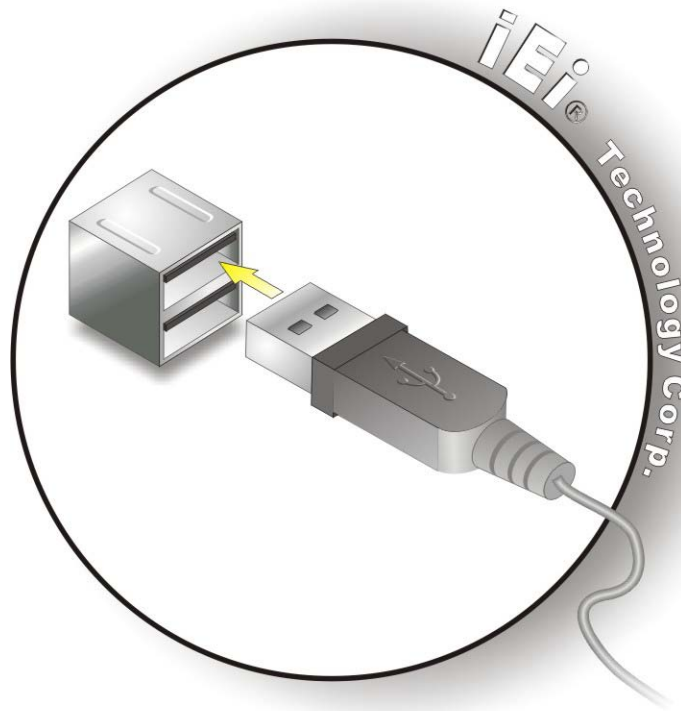

Figure 3-10: USB Device Connection
Step 2: Align the connectors. Align the USB device connector with one of the connectors on the external peripheral interface. See **Figure 3-10**.